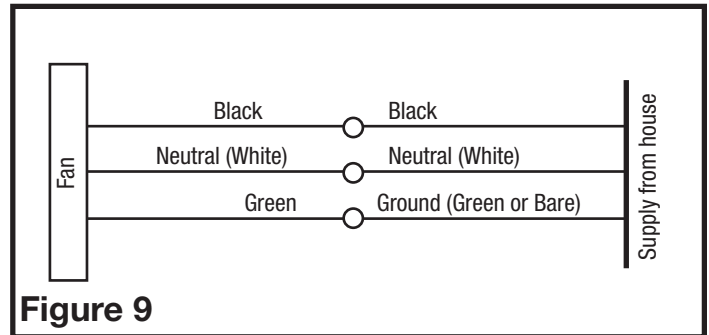

Figure 9
3. For two speed fans wired for continuous ventilation, connect the White wire of the fan to the White (Neutral) wire from the power source. Connect the ground wire from the house to the green wire from the fan housing. Connect the Black wire of the fan to the Black wire (Hot) from the power source. The fan will operate on low speed continuously and boost to high speed when motion is detected. A manual override switch (not included) can be used to provide a manual fan Off function. (Figure 9).